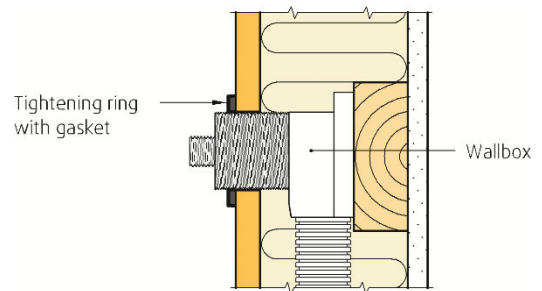

Fig. 4
- Tightening ring and gasket delivered with wall box is installed as illustrated in Figure 4.